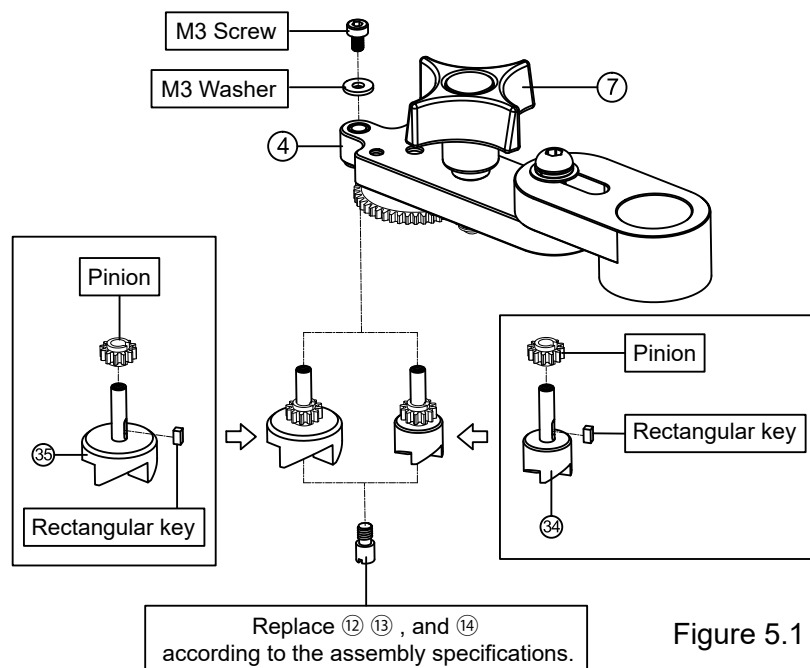
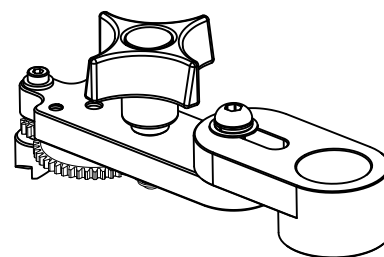

Figure 5.1
Figure 5.2
1. Use a 2.5mm hex wrench (31) to unwind the M3 screw and disassemble the remaining parts as shown in Figure 5.1.
3. Assemble the related parts as shown in Figure 5.1 in sequence to form the assembly shown in Figure 5.2. Rotate the main body knob (7) to ensure that the entire mechanism operates smoothly.